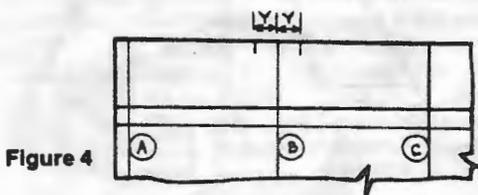

Figure 4
4) First mark out the TAIL PIECE. Determine the size pin you would like (Figure 4). Mark this measurement (Y) to the right and left of line B. This will help you set your gauge accurately.